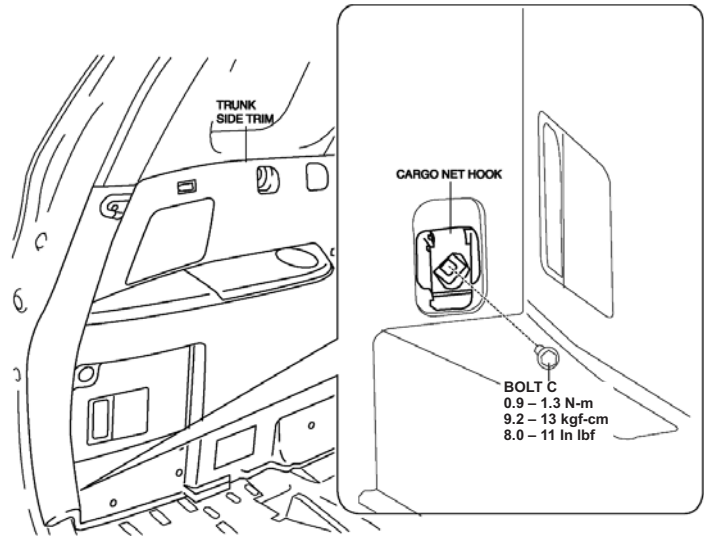

FIGURE 45
- 3.) REMOVE BOLT C THEN REMOVE CARGO HOOK. (SEE FIGURE 45)
- 4.) HOLD C-PILLAR TRIM WITH YOUR HANDS AND PULL THE TRUNK SIDE TRIM IN THE DIRECTION OF ARROWS (1), (2), (3), AND (4). REMOVE HOOKS AND GUIDES B. (SEE FIGURE 45)